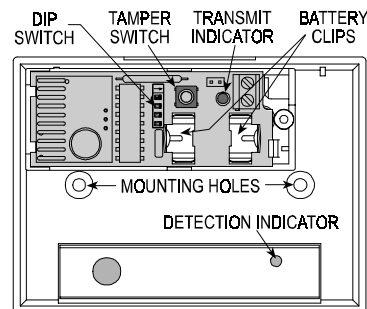

Figure 5. Inside View
B. Get to know the items indicated in Fig. 5 - they are all relevant to the steps you will have to take in the course of installation.